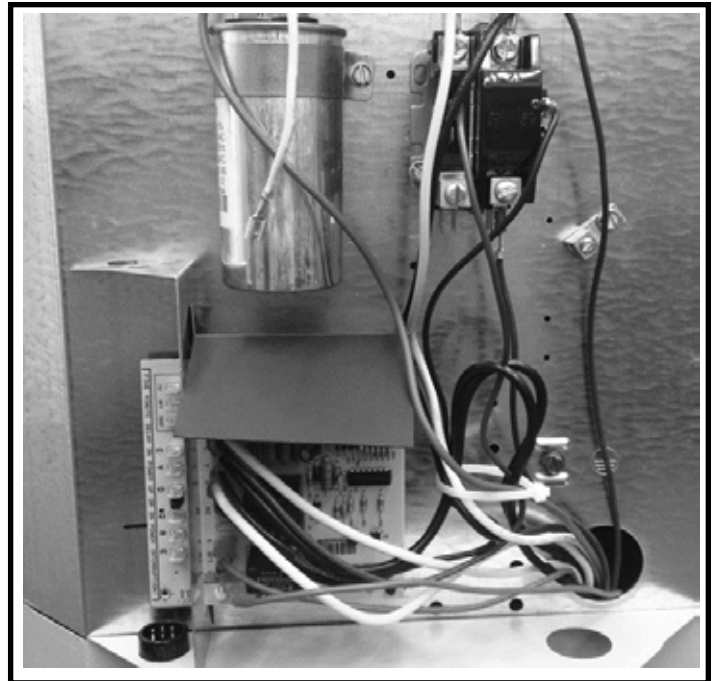

Figure 2. Drip Guard Installed
4. Install the drip guard end that has holes behind the defrost board. Press the standoffs through the holes in the drip guard. See Figure 2.